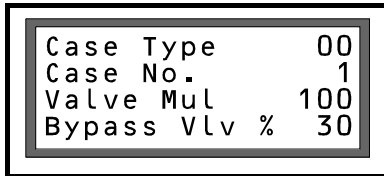

Figure 16- Configuration Screen
3. Press the **↑** key to switch to the configuration screen (**Figure 16**).
3. Press the **↑** key to switch to the configuration screen (*Figure 16*).